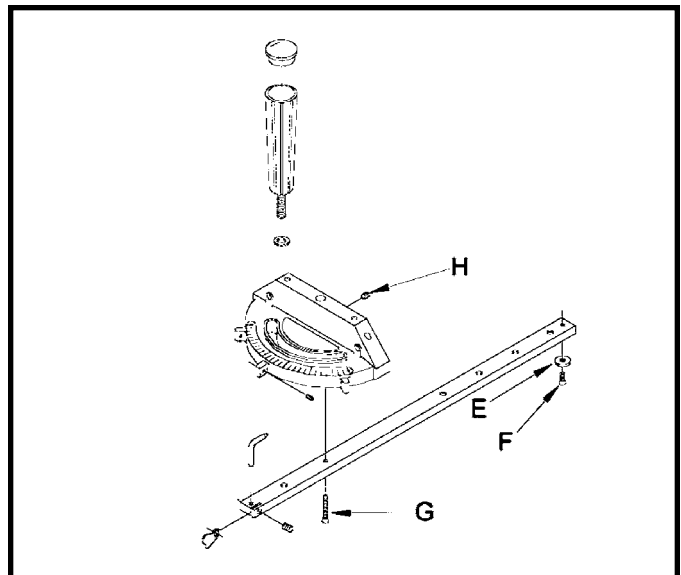

Fig. 49
The head of the miter gage pivots on a special tapered screw (G) that fastens the head to the miter gage bar. If the miter gage head does not pivot freely, or pivots too freely, it can be adjusted by loosening set screw (H) Fig. 49, and turning the screw (G) in or out. Be certain to tighten screw (H) after adjustment is made. Your miter gage is equipped with a plate (E) Fig. 49, which fits into the T-Slot groove in the table. This allows the miter gage to be pulled off the front edge of the table without falling. This allows for a longer cut off capacity in front of the blade.